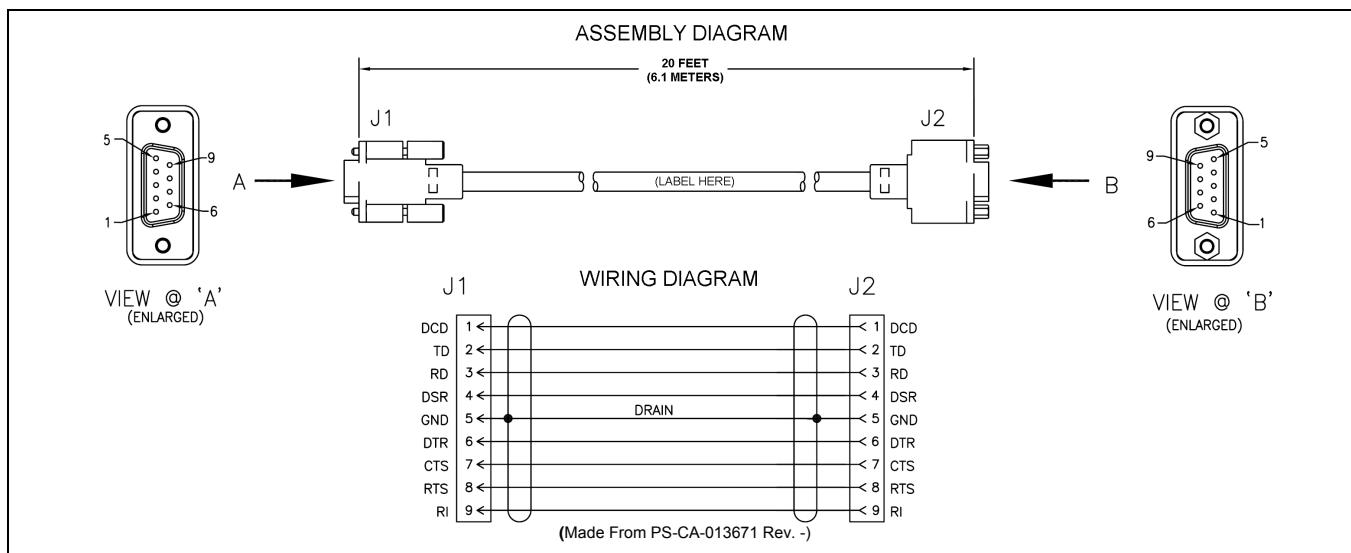

Figure 11-3: Serial Data Cable CA-013671-020
Serial Data Cable CA-013671-020 (20 feet long) can be used to make data connections to the radio to support data communications equipment such as an MDT or a GPS NMEA-format device. It can also be used to program and configure the radio via a Personal Computer (PC). The cable's assembly and wiring diagrams are shown in Figure 11-3 below.